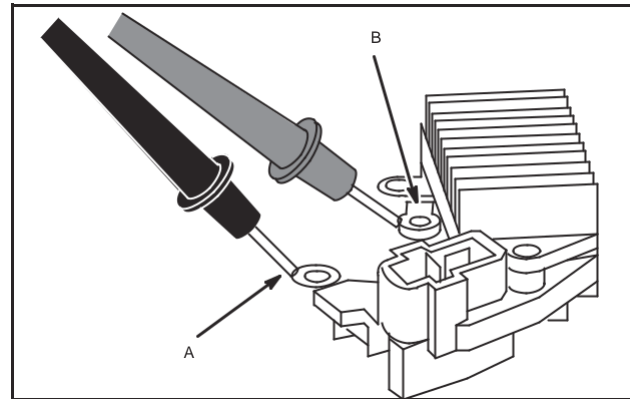

Fig. 34 – Check Regulator
1. Attach BLACK meter test lead to terminal "A" as shown, Fig. 34.
2. Contact terminal "B" with RED meter test lead, Fig. 34.